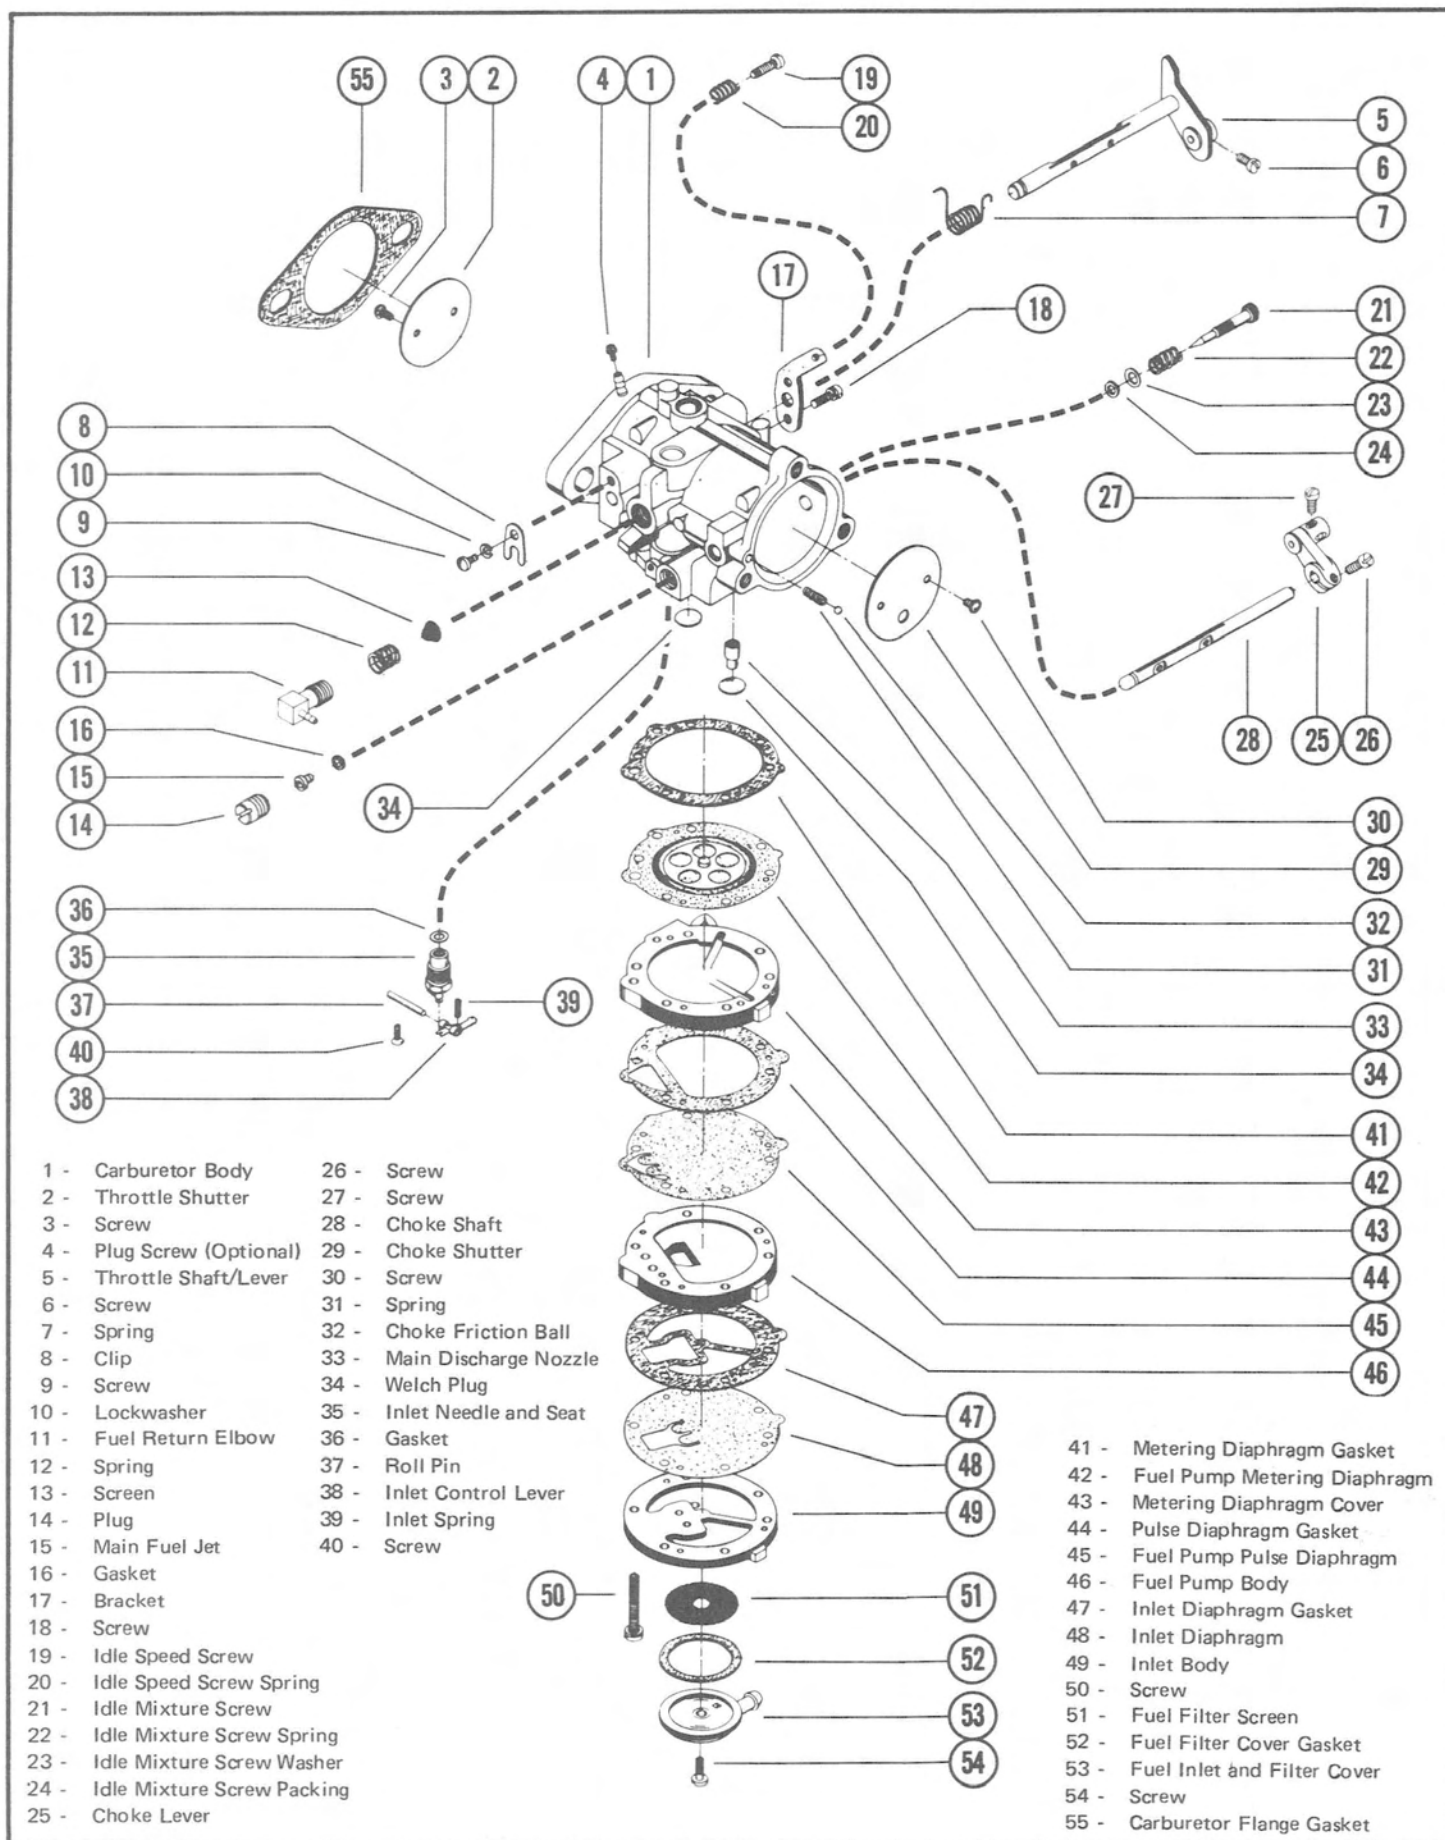

Figure 6. Carburetor Assembly
REASSEMBLY (Figure 6)
- d. Assemble fuel pump gaskets, diaphragms and castings as shown in Figure 6. Parts fit one way only.
NOTE: On Mark II Model, choke arm is installed as shown in Figure 6. On 440 MAX Model, choke arm is installed on opposite side.